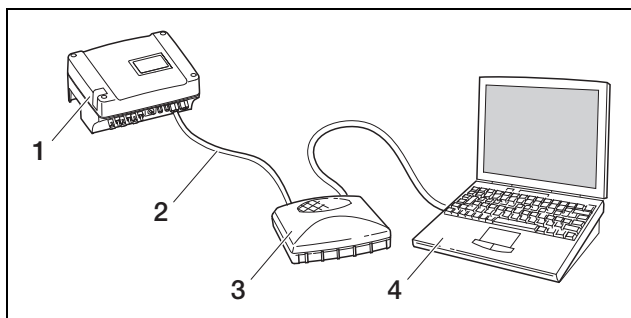

Fig. 29: Connecting inverter and computer with Ethernet cables and switch
- b) via a local network (switch/hub/router and Ethernet cable, see figure 29).